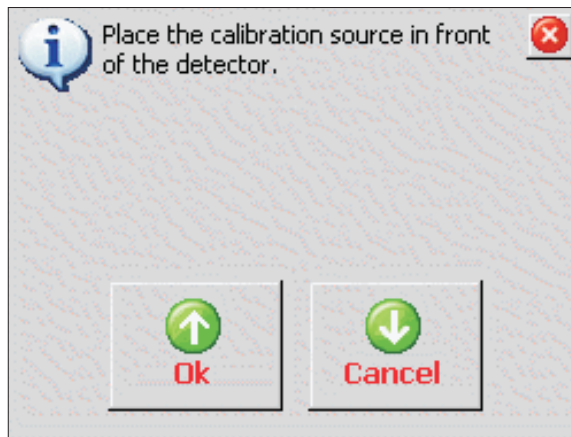

Figure 48 The Calibration Prompt
1. When you start Auto Recal, you'll be prompted to place a mono-line calibration source (10 to 20 nCi) in front of the detector (Figure 48).